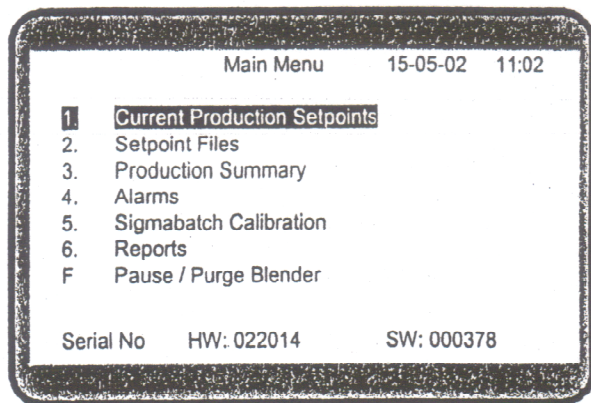

Fig. 6
- Select **"Current Production Setpoints"** on the **"Main Menu"** (Fig. 6) by pressing **1**.